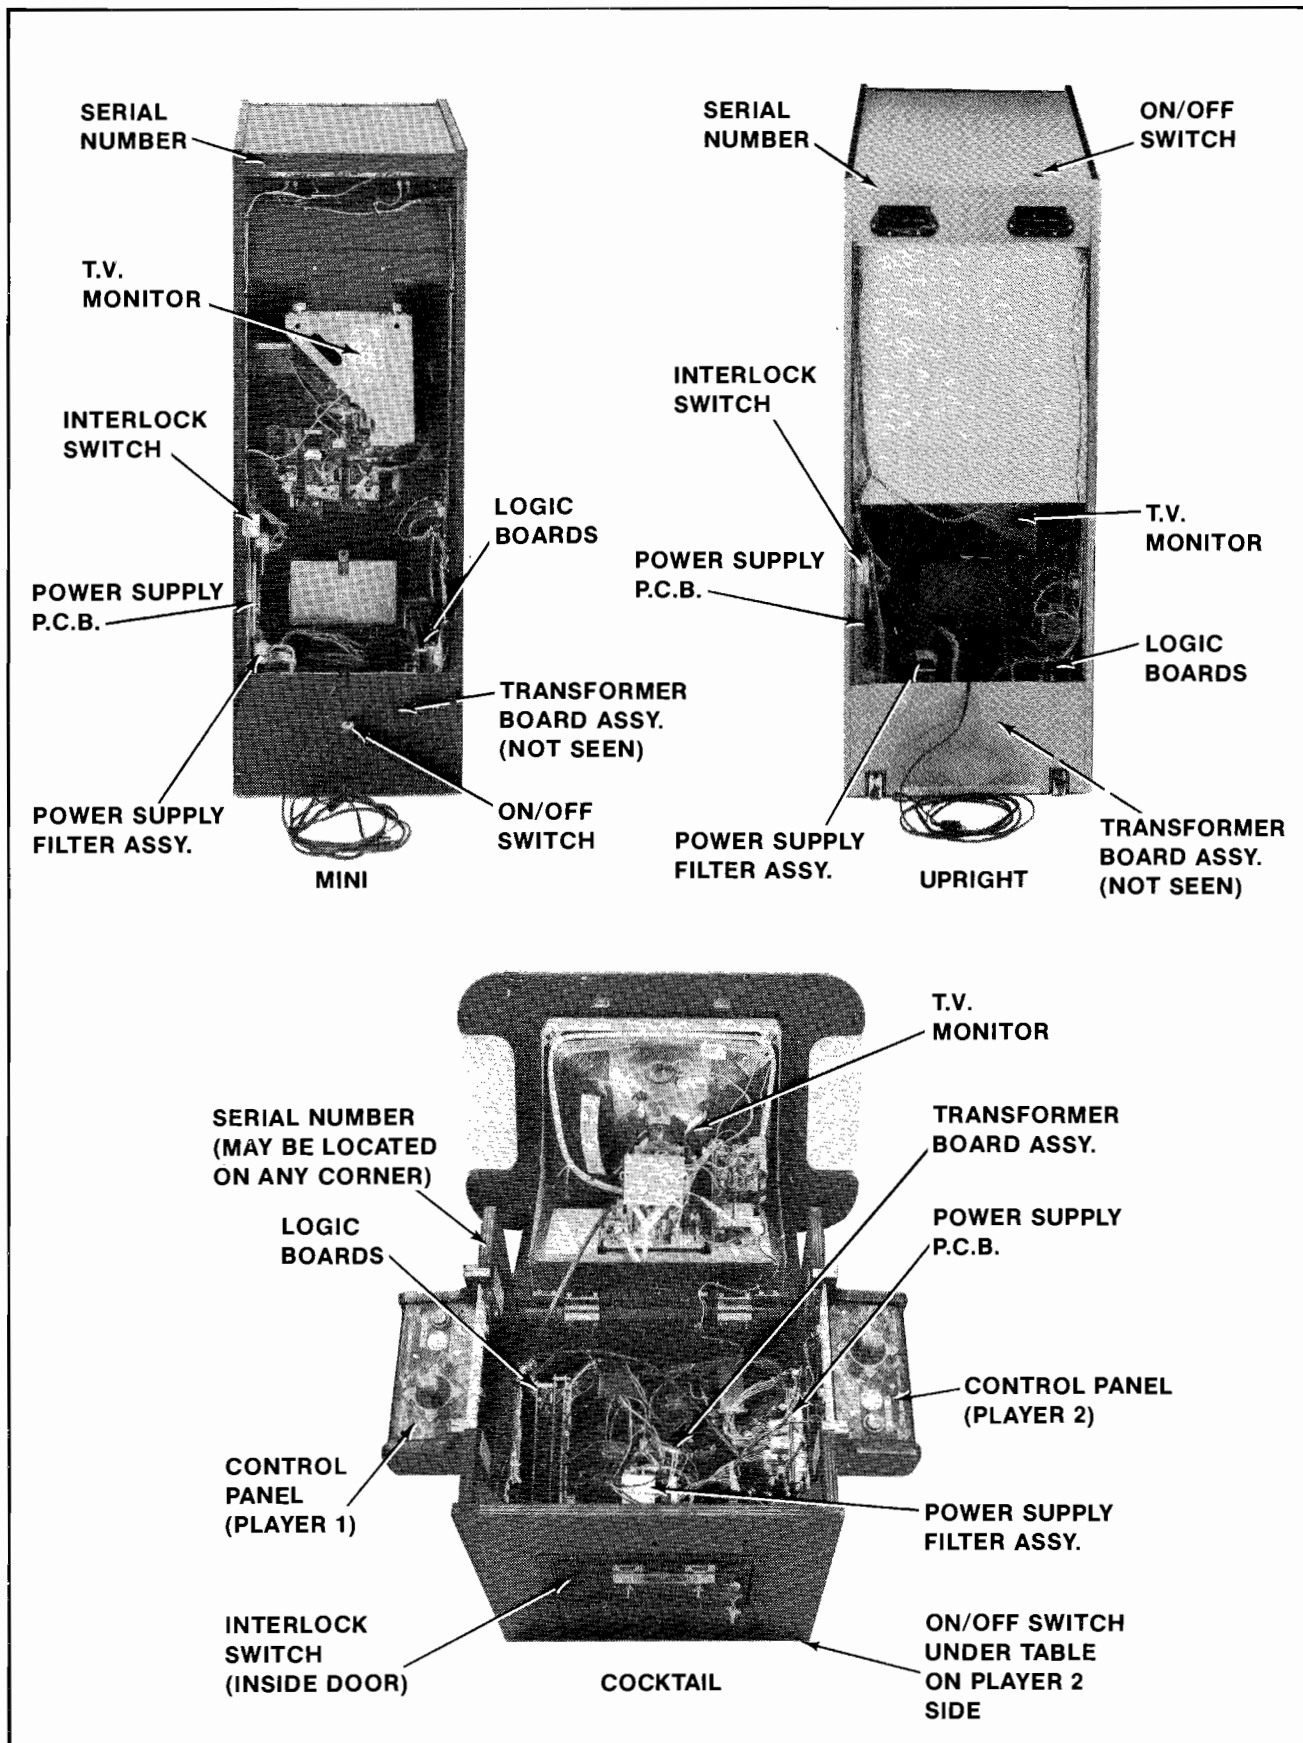

Figure 2-1 Location of Serial No., Interlock Switch, On/Off Switch, & Major Sub-Assys.
5. Open the cabinet and inspect the inside of the game for any signs of damage. See Figure 2-1.
- Make sure all printed circuit boards (P.C.B.'s) are firmly seated in their connectors. See Figure 2-1. These connectors are also keyed. The P.C.B.'s will only go into them one way without being damaged.
- Note the location of the game's serial number. See Figure 2-1.
- Check all major subassemblies to be sure they are mounted securely. These are called out in Figures 2-1 & 2-2.
3. Interlock and power ON/OFF switches. See Figure 2-1.
The game ON/OFF switches for all models are located as shown in Figure 2-1. Turn the game on and allow it to warm up a few minutes.